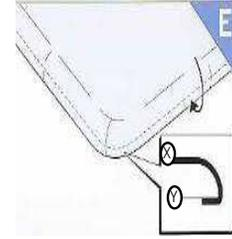

Figure 7. Apply adhesion promoter between X and Y
2. Apply adhesion promoter to the edges, starting about 1/2 inch from where the shape changes (see Reference X) and extending to the back side of the surface for at least 1/2 inch (see Reference Y). Allow the adhesion promoter to dry to improve adhesion and minimize shrinkage. See Figure 7.